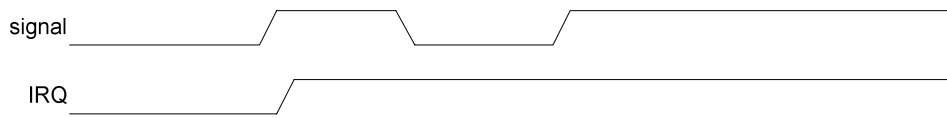
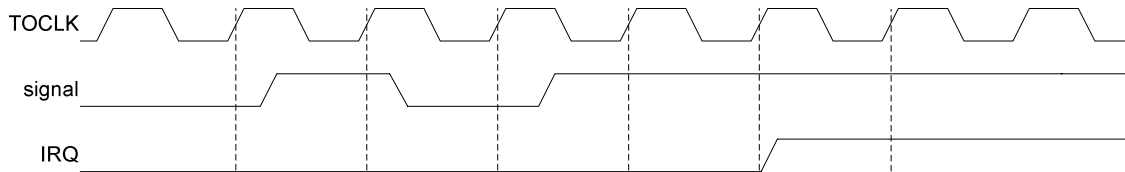
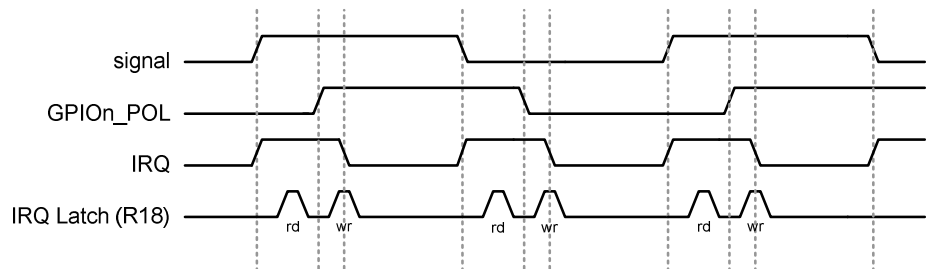

Figure 50 GPIO Latch
Figure 51 GPIO De-bounce
Figure 52 GPIO Edge Detect
Three typical scenarios are presented in the following Figure 50, Figure 51 and Figure 52. The examples are:
- Latch a GPIO input (Figure 50)
- Debounce and latch a GPIO input (Figure 51)
- Use the GPIOn\_POL bit to implement an IRQ edge detect function (Figure 52)